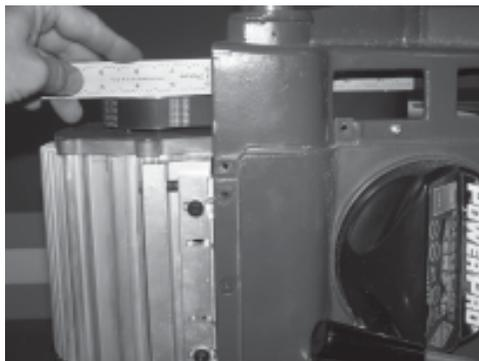

Figure E-5
12. Place a 12" long straightedge on the pulley to check that the face of the Motor Pulley is still aligned with the center of the Poly-V Pulley on the Idler Shaft. See Figure E-5.